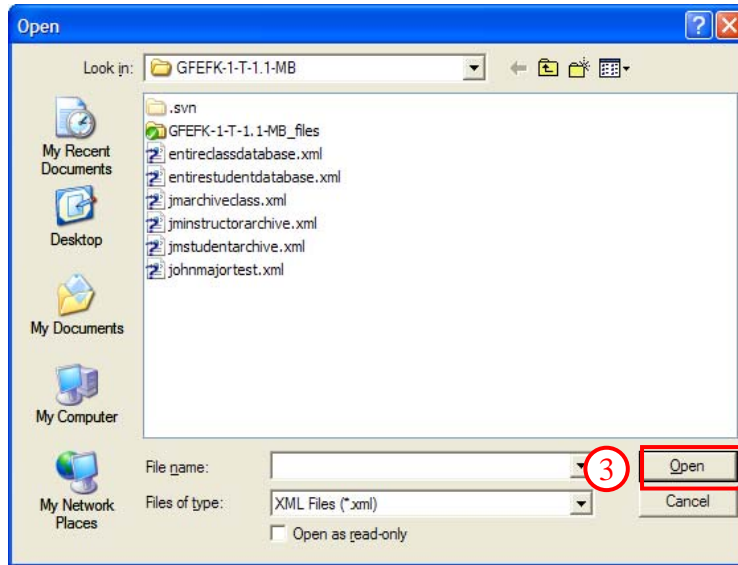

Figure 44. Retrieve - Open Dialog
2. An Open dialog is displayed (Figure 44).